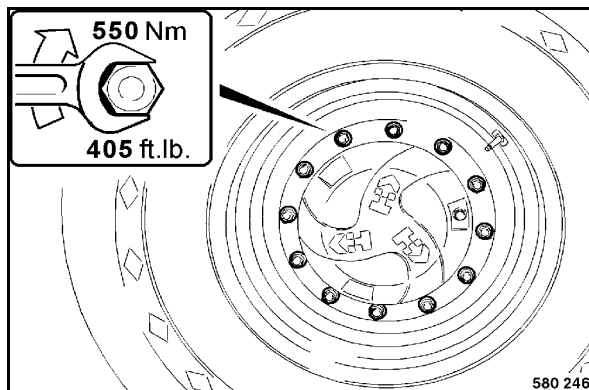

Fig. 196
- Attach a new wheel (Fig. 196) and tighten the wheel nuts crosswise with 550 Nm (405 ft. lb.).